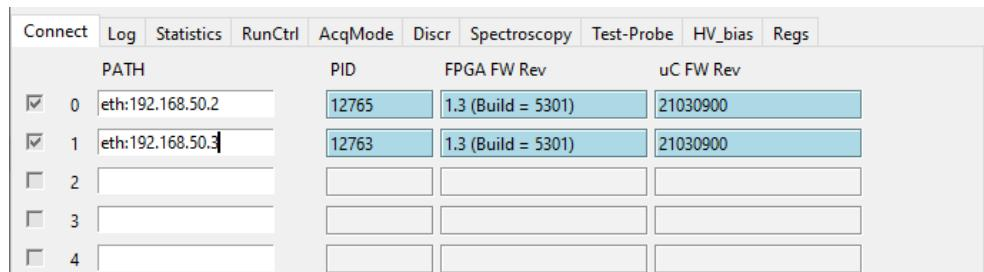

Fig. 3.20: The Janus 5202 GUI Connect Tab with a two-board Ethernet connection established.
8. Open the Janus 5202 GUI. The IP addresses of all the boards have to be written in the PATH fields one below the other. The Connect button  can then be pressed. An example of a two-board Ethernet connection is presented in **Fig. 3.20**.